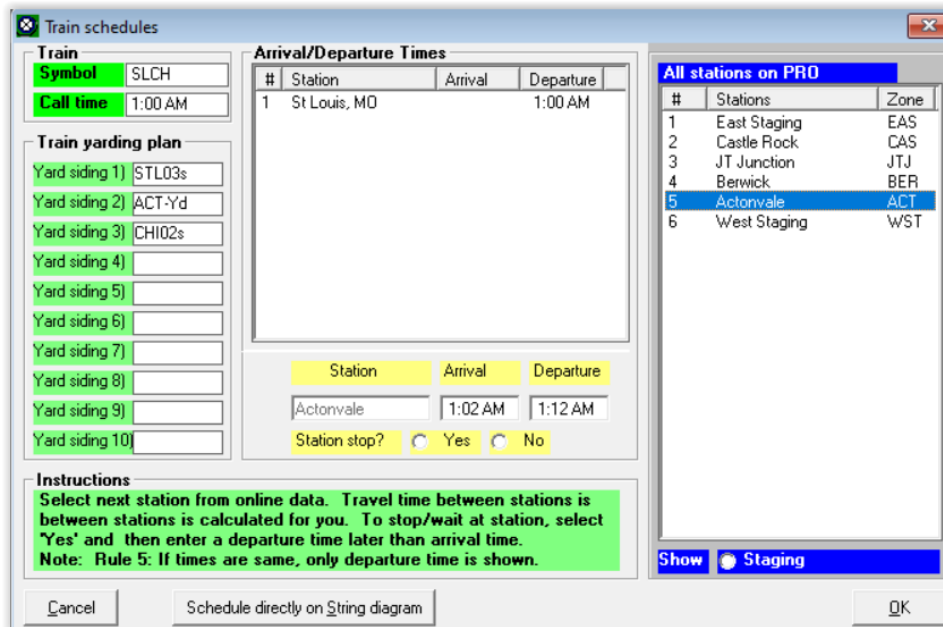

Figure 12-14
- Next we need to build the schedule for SLCH. Double click on Actonvale in the right hand panel to enter it as our next stop. Actonvale will now appear in the editing fields under the Arrival/Departure Times list. See Figure 12-14. You will note ProTrak has entered times for arrival and departure and is asking if there is a stop at this station.